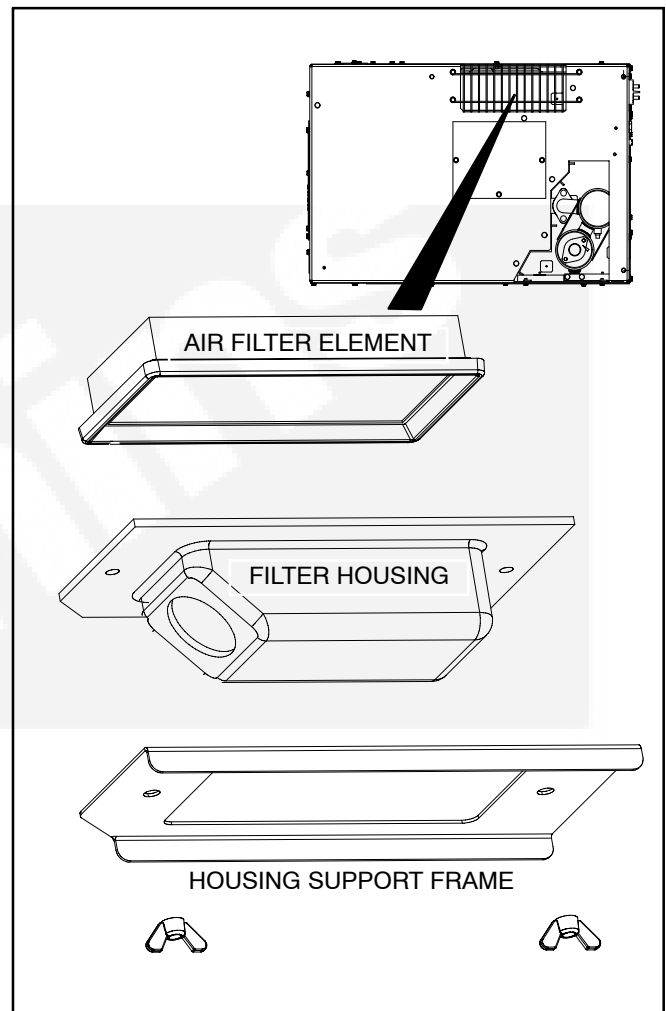

FIGURE 3-3. AIR FILTER
Depending on the installation, remove the protective grille below the air filter (Figure 3-3) or the front access door (Figure 3-1). Then unscrew the two (2) wingnuts and pull away the housing support frame, housing and filter element.